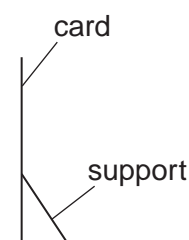

Fig. 4.3
- (iv) Screen. (A white sheet of stiff card approximately 150 mm × 150 mm, fixed to a wooden support is suitable. See Fig. 4.3.)